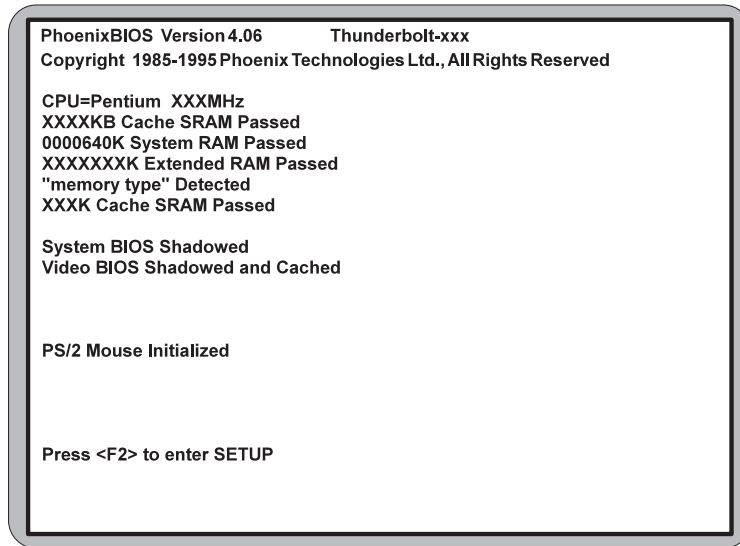

Figure 1-1: Power-Up Screen
8. Turn the computer on and press the <F2> key when you see the screen in Figure 1.1.